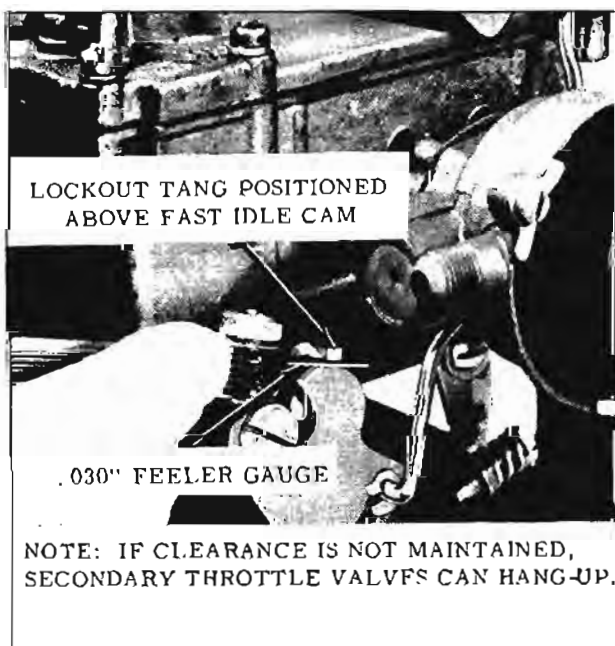

Fig. 9-190 Secondary Throttle Contour Clearance Adjustment
1. Hold the choke valve in the wide open position so that the secondary lockout tang is positioned over the fast idle cam, then measure the clearance between the tang and the fast idle cam. The clearance should be  $.030'' \pm .010''$ . (Fig. 9-190)